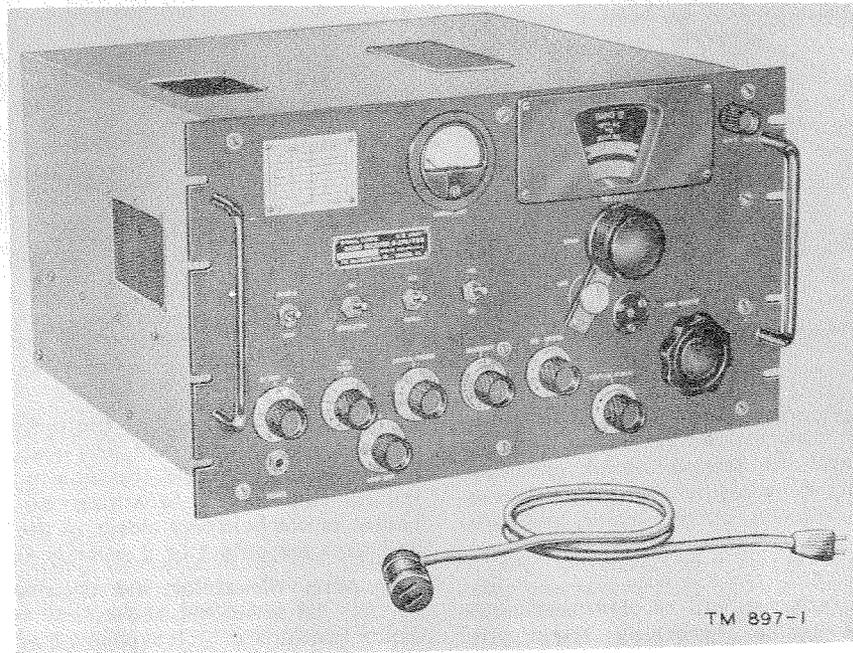

Figure 1. Radio Receiver R-274/FRR.
*a.* Radio Receiver R-274/FRR (fig 1) is a superheterodyne receiver intended for use in a semipermanent or fixed location. The receiver is adaptable for desk, table, or rack mounting. When used on a desk or table, the receiver may be installed within a metal case (Cabinet CY-699 ( )/FRR). The rectifier power supply and filament supply are contained within the unit. The receiver does not have a built-in speaker; therefore, external equipment is necessary for reproducing the audio signal.